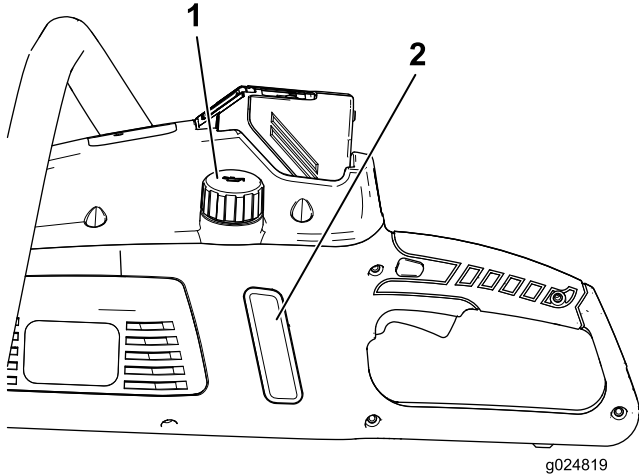

Figure 4
2. Clean the area around the oil cap (Figure 4).
3. Remove the cap and pour oil into the chain saw until the oil fills the window (Figure 4).